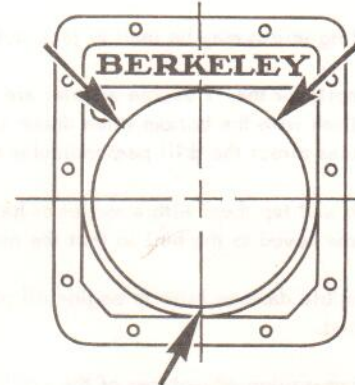

Figure 9
- Remove, by scraping, any excessive build-up of paint from the bowl O-ring groove. Place the large O-ring into groove. Sand the bore of the transom housing with fine sandpaper, paying particular attention to the chamfer where the O-ring starts into the bore. Glue the neoprene gasket to the transom housing with an adhesive, such as Permatex "Hi-tac 99MA." Note that the corner radius of the gasket at the bottom is larger than the top. Grease the O-ring and the bore of the transom housing with a light grease or silicone. Apply sealer, such as General Electric "RTV Silicone Sealer," to the transom housing gasket surface that contacts boat transom. Place the transom housing over the Jet-Drive bowl, and start over the O-ring. Push the housing evenly onto the O-ring until housing contacts boat transom, making certain O-ring has not been forced out of groove. Only if necessary, using a soft wood block and hammer, tap the transom housing at area around bowl (Figure 9). Do not tap flange itself. This will cause cracking or breaking of housing. Center the transom housing on boat, drill the eight 1/4" holes at the top and sides. The transom housings, cast of aluminum (0203-B-06491 and 0203-B-06492), are secured to the boat transom with flat head machine screws, flatwashers and nuts. The transom housing, molded of Lexan (0203-B-07517), is secured to the boat transom with round head machine screws, nuts and two flatwashers per machine screw, one on the inside and